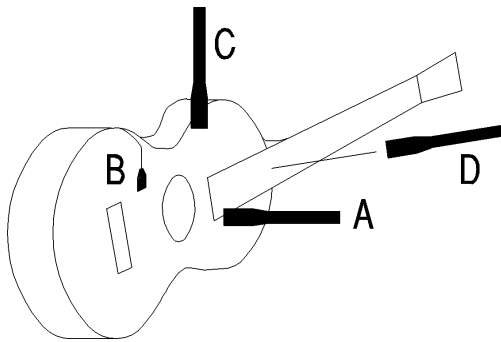

Fig. 3. Guitar miking (see text).
- Mike closer. Put the guitar mic close to the sound hole (Fig. 3-A). The tone there is very bassy, so turn down the low-frequency EQ on your mixer (or on the mic) until the sound is natural. Also cut a few dB around 3 kHz to reduce harshness. Put a foam pop filter on the vocal mic and angle it upwards. The singer should have lips lightly touching the pop filter. Again, the vocal tone will be bassy, so roll off the excess lows with your mixer's EQ.
- Use a mini omni mic on the guitar to increase isolation. The Crown GLM-100 works very well taped about 1/2 inch from the low E string, about halfway between the sound hole and bridge (Fig. 3-B). Mounting the mic closer to the sound hole gives a bassier sound. You can roll off the excess bass with your mixer's EQ, and this will increase the separation.
- Use a supercardioid mic on the guitar. Aim the "dead" null of the guitar mic's pickup pattern at the mouth. Angle the vocal mic up toward the mouth, and angle the guitar mic down toward the guitar (Fig. 3-C). Then the guitar mic won't pick up so much vocal. This method helps even with a cardioid mic, such as the CM-700.
Now let's look at mic positions. Try a CM-700 about 1 foot from where the fingerboard joins the guitar body—at about the 12th fret (Fig. 3-D). That's a good starting point for capturing the acoustic guitar accurately. Still, you need to experiment and use your ears. Close to the bridge, the sound is woody and mellow.